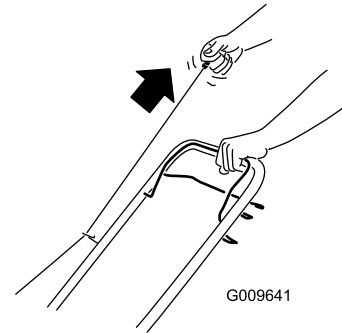

Figure 11
2. Pull the recoil start handle (Figure 11).
(Figure 11). Allow the rope to return to the handle slowly.